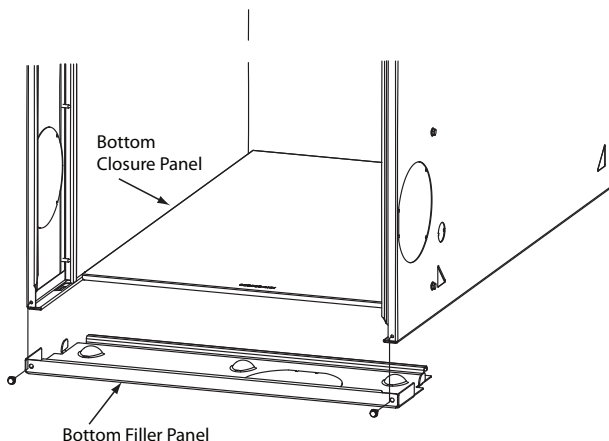

Fig. 4 - Removing Bottom Closure Panel
4. Remove bottom closure panels from both furnaces. (See Fig. 4.)
3. Remove bottom closure panels from both furnaces. (See Fig. 4.)